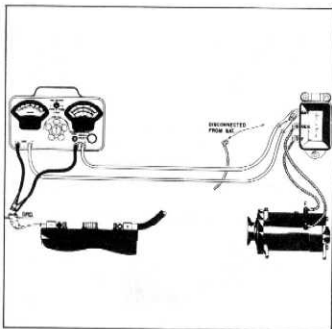

Fig. 19—Volt-Ammeter Connections for Checking Voltage Regulator
3. Connect the positive lead of the voltmeter to the battery terminal of the regulator and the negative lead to a good ground (fig. 19).